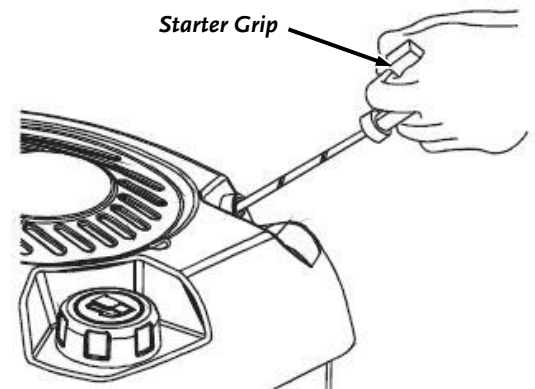

Figure 8
- 3) Pull the Starter Grip lightly until resistance is felt, then, briskly pull to start the Engine (**Figure 8**). Lightly return the Starter Grip once the Engine starts.